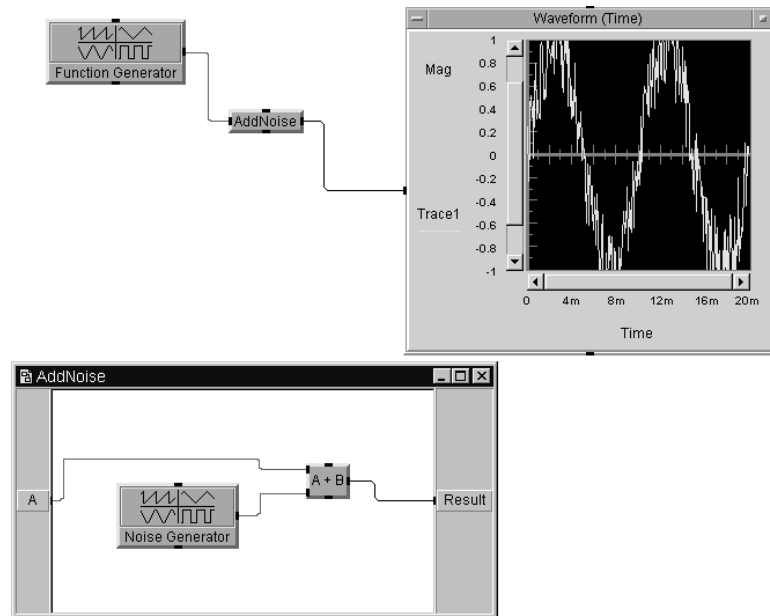

Figure 43 UserObject Renamed AddNoise
- 7 To help you keep track of the UserObject, change the title from UserObject to AddNoise. Double-click the title bar and enter the new title in the properties dialog box. Figure 43 shows how this makes the program easier to follow.